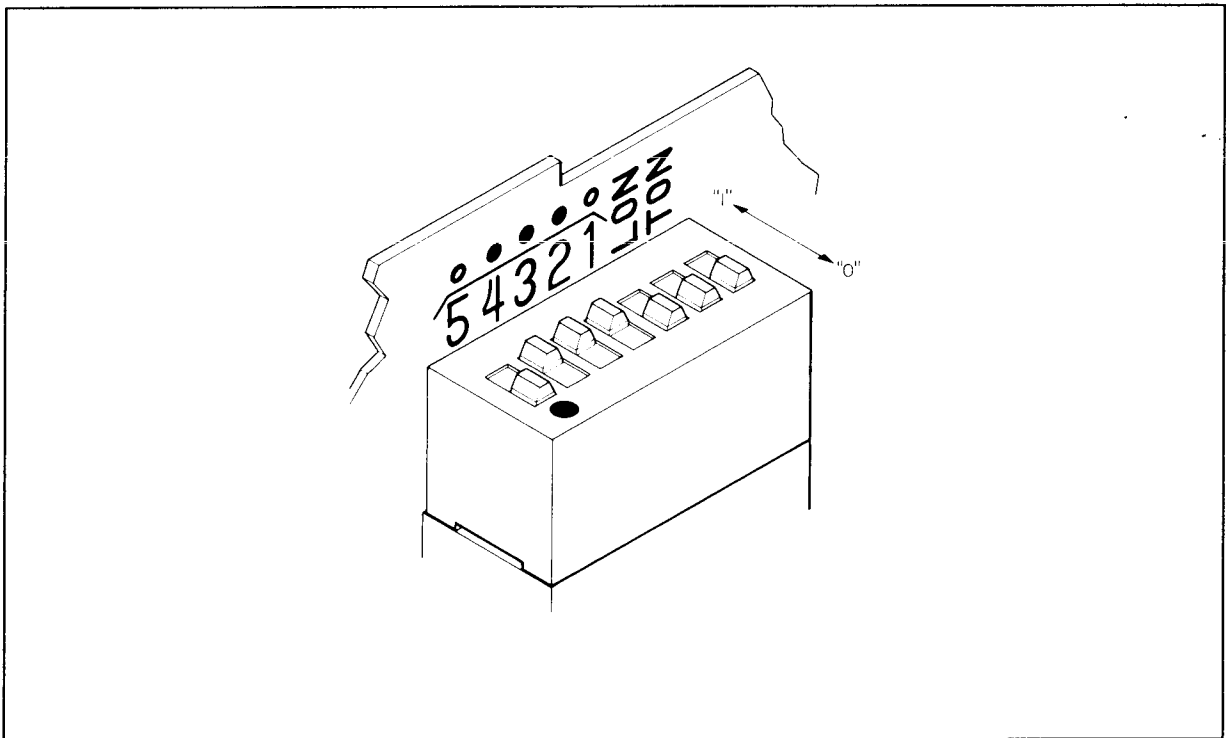

Figure 2—2. The HP-IB Address Switch Shown as Set by the Factory
5. Use a pencil to set the switches to the desired HP-IB address and Talk Only (TON) or Listen Only (LON) condition. The switch is illustrated in Figure 2—2. Facing the board, the left hand switch (marked with a “5”) is the most significant address bit (A5 in Table 2—2). Setting a switch toward the printed circuit board places it in its “1” position. If the TON and LON switches are both set to “1”, the Talk Only setting will override. If the address switches and the TON switch are all set to “1”, the Measuring Receiver will output one byte (the status byte) each measurement cycle. (Setting all switches to “1” defeats HP-IB operation.)